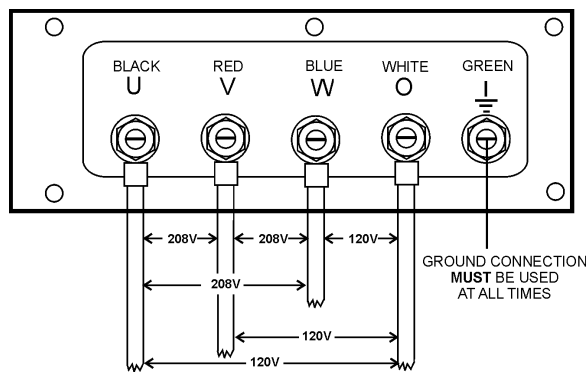

Figure 23. UVWO Terminal Lugs 3Ø-208/1Ø-120V Connections Connections
2. Connect the load wires to the UVWO terminals as shown in Figure 23.